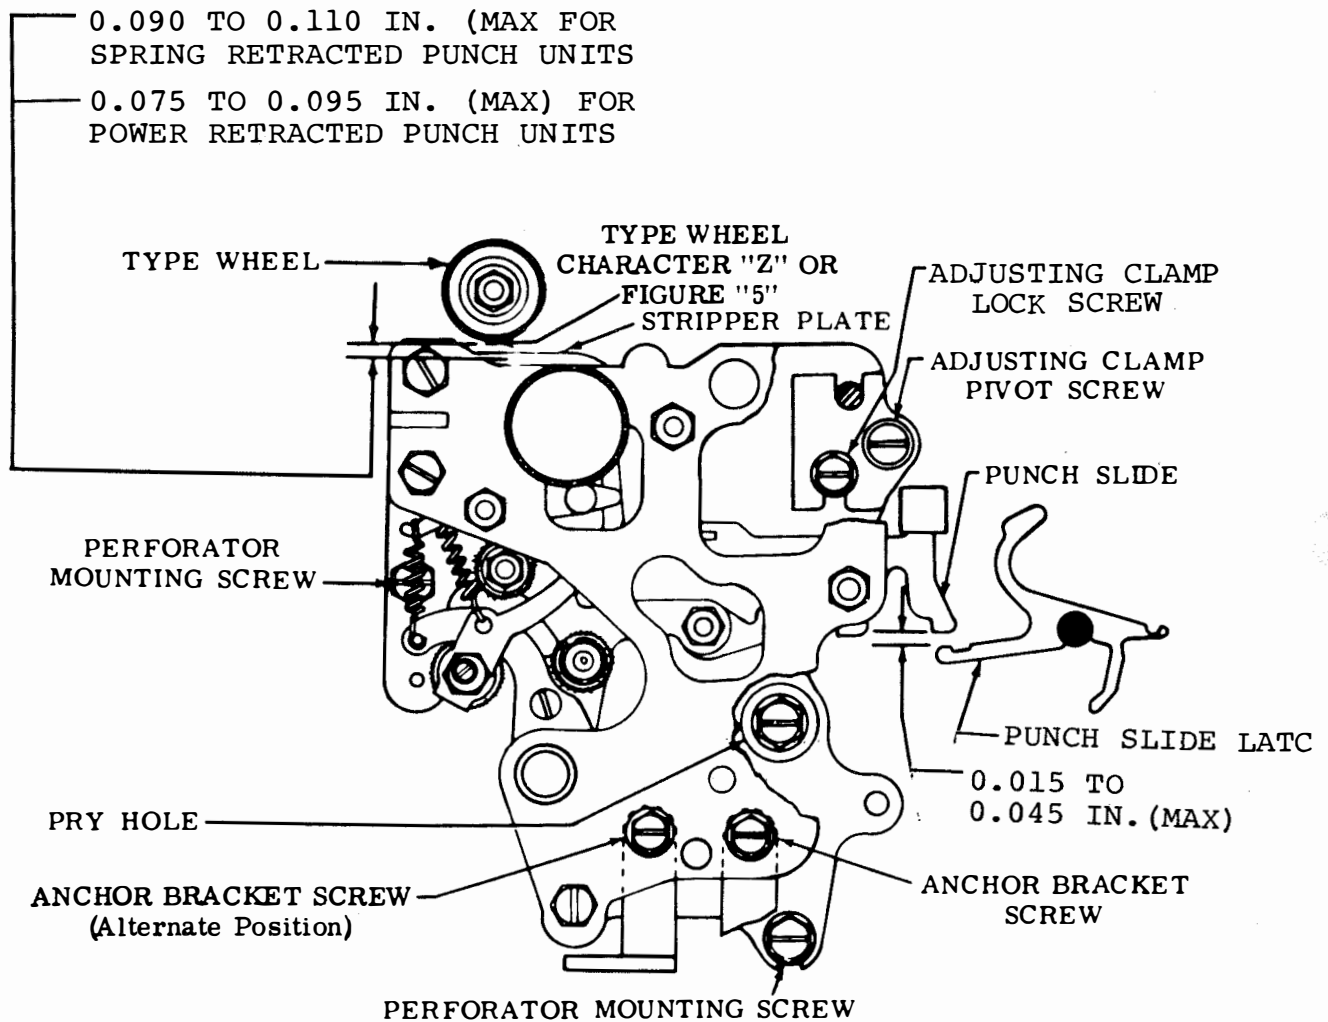

Figure 6-240. Punch Mounting Plate (Final), Front View
- (2) Punch Mounting Plate (Final). Adjust as follows:
- (a) Refer to Figure 6-240.